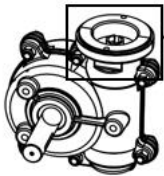

Figure 6
4. **Figure 6.** Apply sealant to the gearbox contour and in the threaded holes.